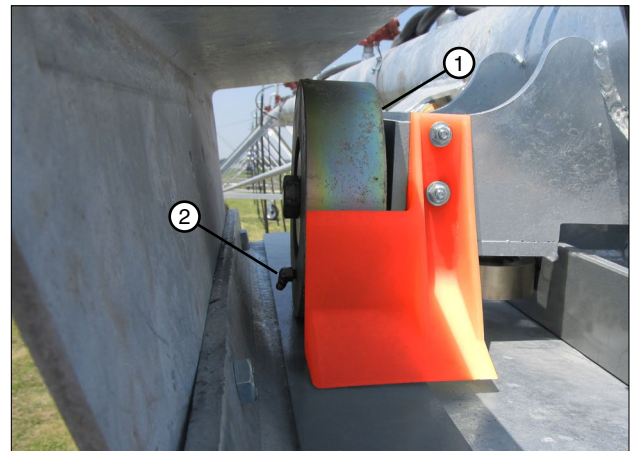

Figure 35-2 1. Track Roller
2. Lubricate the grease fitting on each track roller. See Figure 35-2.